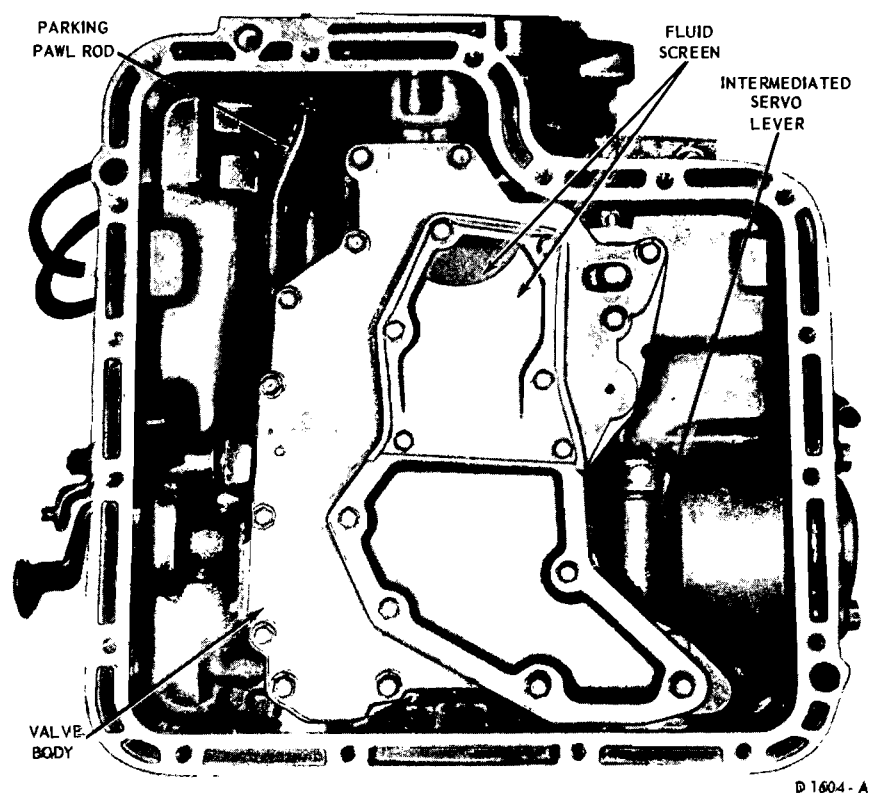

FIG. 31—Transmission with Oil Pan Removed
3. Remove the valve body attaching bolts (Fig. 31). Lift the valve body from the transmission case.